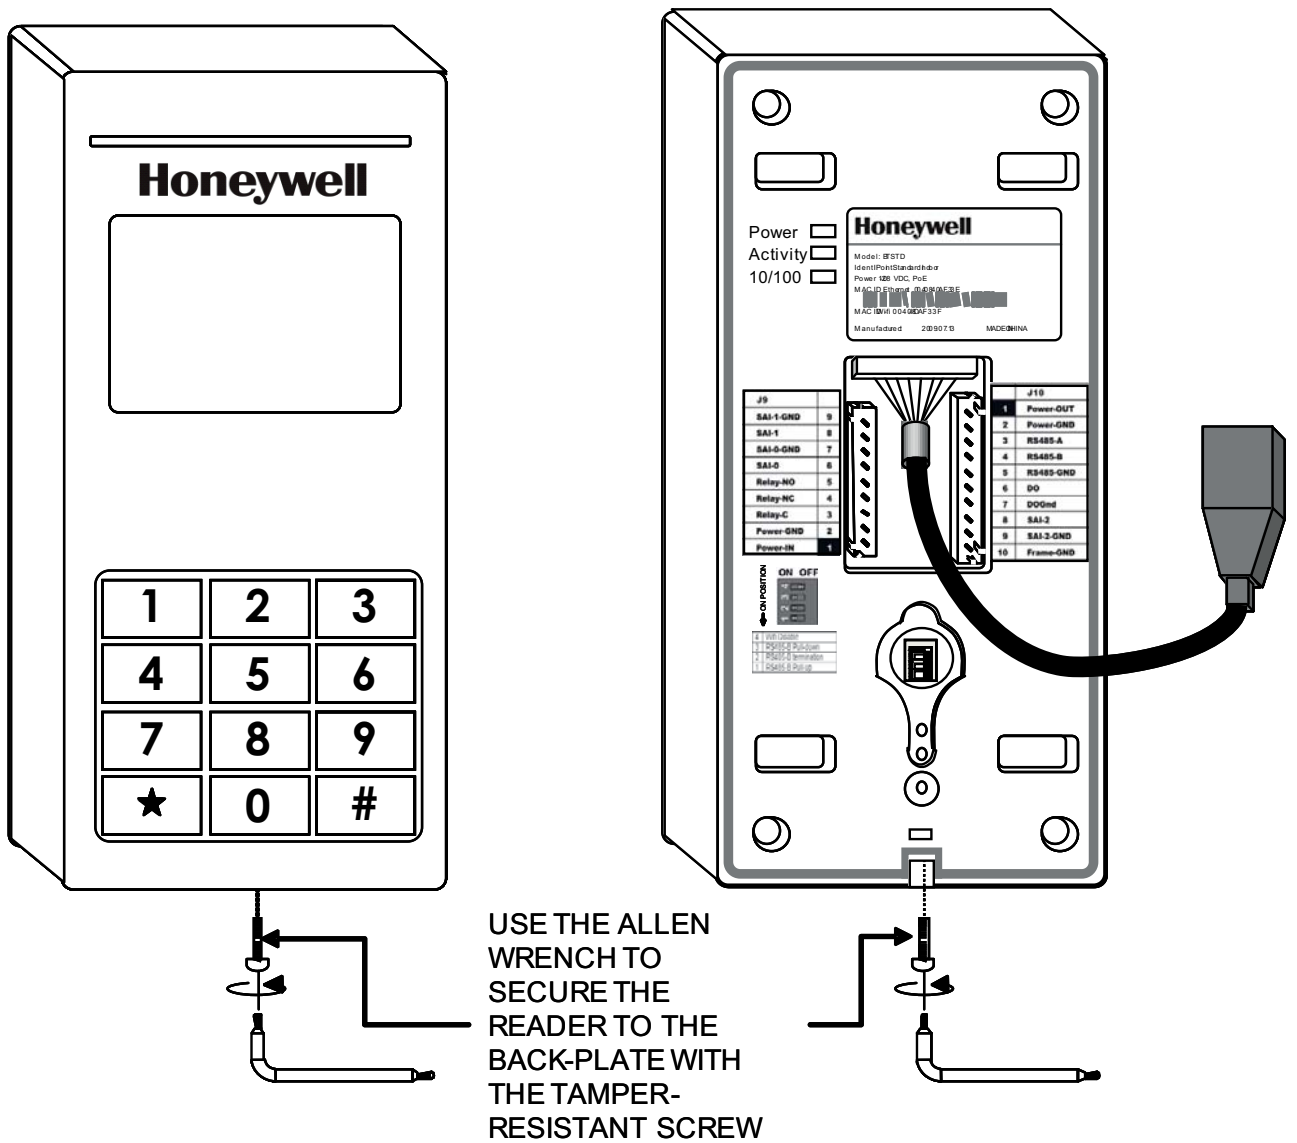

Fig. 10. Securing the Identipoint reader to the back-plate
6. Use the Allen wrench to tighten the tamper-resistant screw at the bottom of the reader into the hole provided on the back-plate so as to fasten the reader to the back-plate securely. See Fig.10.
5. Use the Allen wrench to tighten the tamper-resistant screw at the bottom of the reader into the hole provided on the back-plate so as to fasten the reader to the back-plate securely. See Fig.10.